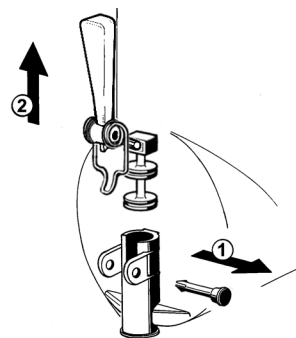

figure 10
- 5 - Dismantle the faucet assembly (see figure 10).
- 3 - Assemble the faucet by reversing the disassembly steps (see figure 10)